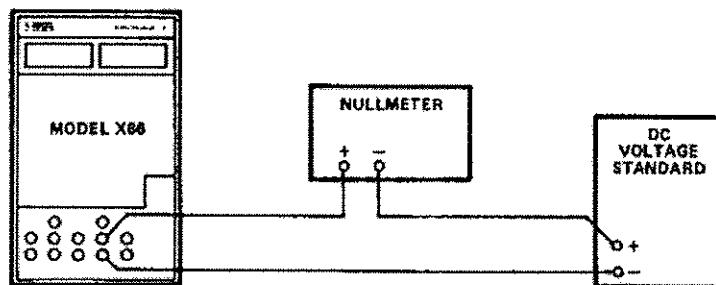

Figure 6-4: Voltage Output Measurement
- a) Connect the Model X86 Portable Calibrator, the dc voltage standard and the nullmeter as shown in Figure 6-4. All potentiometer adjustments referred to in this section are located on PC board X86-1003.
- a) Reconnect the two test leads to the dc voltage standard as shown in Figure 6-4.